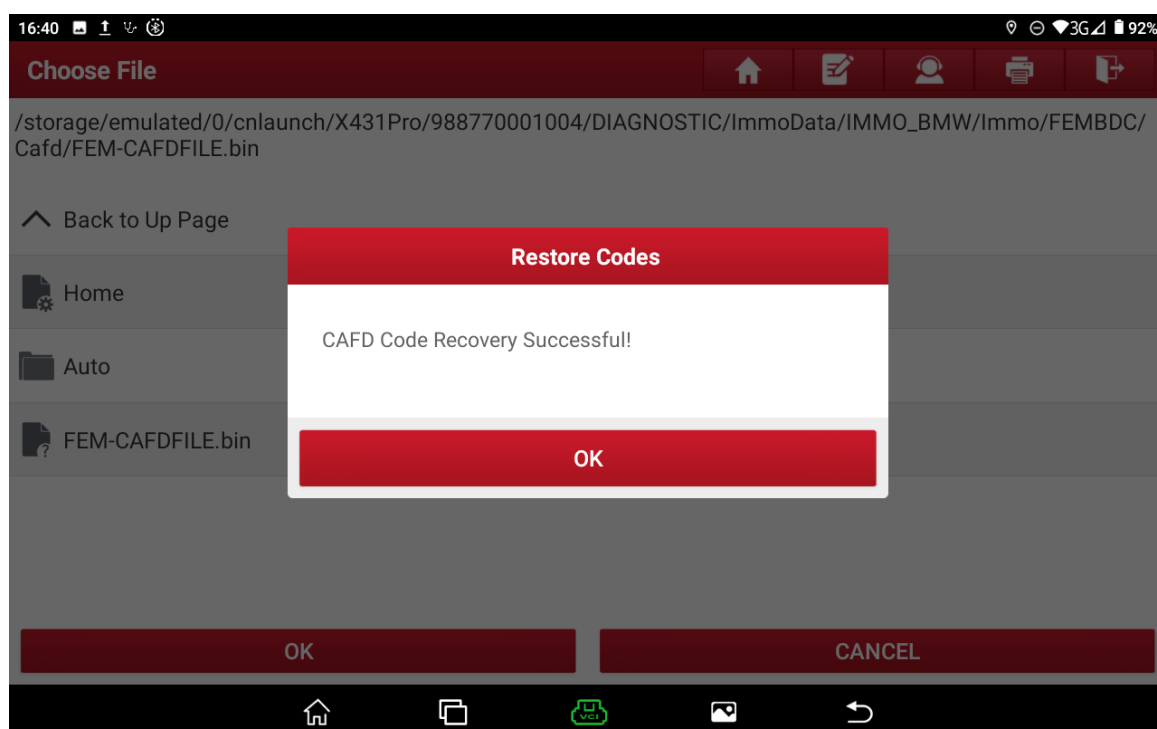

Figure 33
33. Restoration is successful, as shown in Figure 33.